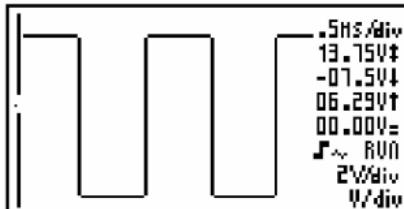

Fig 8.0
- Changing the timebase or sensitivity switches the autorange mode immediately off. (**Fig 8.0**)
Autorange off (Fig. 8.0) :